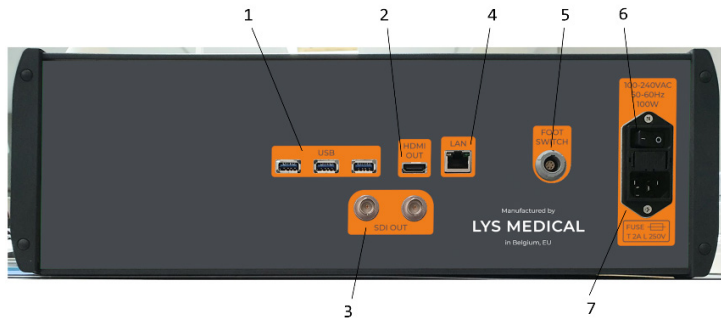
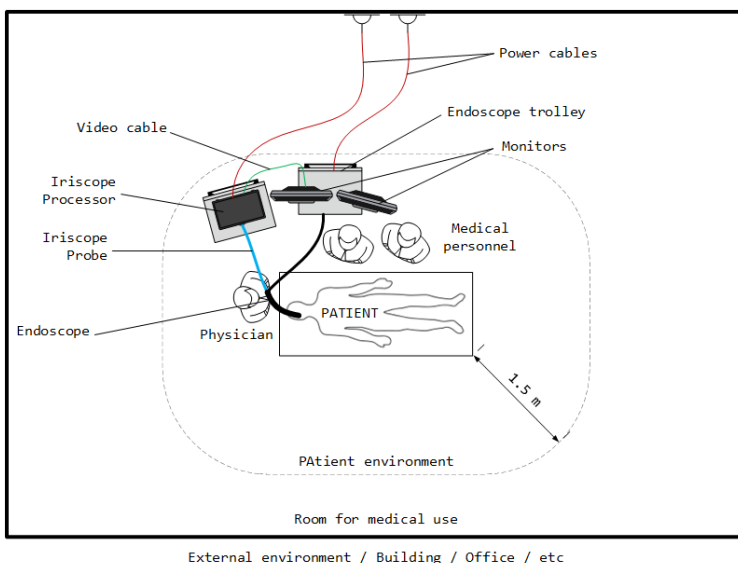

Figure 4 - Control box rear
Figure 6 - Device setup in the endoscopy suite
1. Install the control box in the endoscopy suite 1 m from the patient at most and close to the endoscopy trolley (see Figure 6) making sure that the ON/OFF switch and the power cable (see No. 6 and No. 7 of Figure 4) are always accessible to disconnect the control box.
3. Connect the various cables to the control box (see Figure 4) to check the position of the various ports):